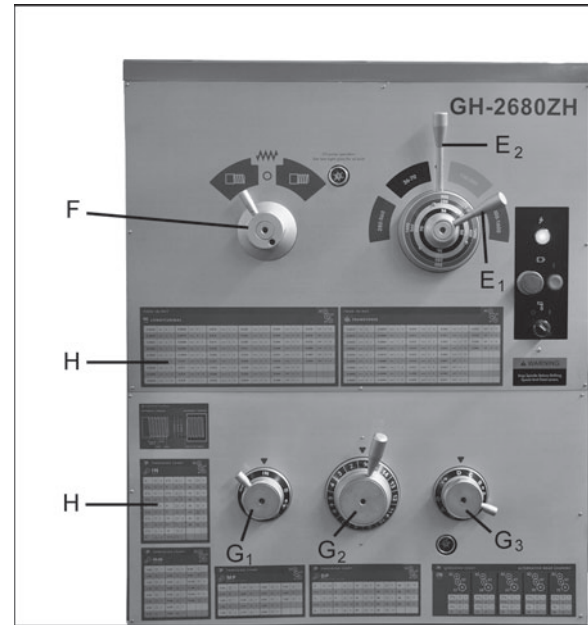

Figure 31
Twelve speeds are available by placing the first speed lever (E1, Figure 31) in one of four positions, and placing second lever (E2) in a position that matches the color for the range you desire. These selections are identified on the lever hub, as well as in Table 6, section 16.3.
1. Refer to the *Feed and Thread Chart* on the front of the headstock (H, Figure 31). The chart is also shown in section 16.10 of this manual.
3. Move levers (G1,G2,G3, Figure 31) to the appropriate position according to the Feed and Thread Chart.
1. Move **thread selection lever** (F, Figure 31) to desired direction, for right-hand or left-hand threads. *NOTE: The overrunning clutch in the apron will prevent the tool post from feeding for left-hand threads. It will only feed when right-hand threads are being cut.*
2. Set **speed levers** (E1, E2, Figure 31) to desired speed. Use the lowest speed possible when threading.
3. Select desired thread using **thread pitch levers** (G1, G2, G3, Figure 31) in conjunction with the charts on the headstock. These charts are also included in *section 16.10* of this manual.
**NOTE:** When a special thread must be cut that is not found on the chart, move thread change control lever (G1, Figure 31) to  position, and lever (G3) to **IV**, then reset the change gears.